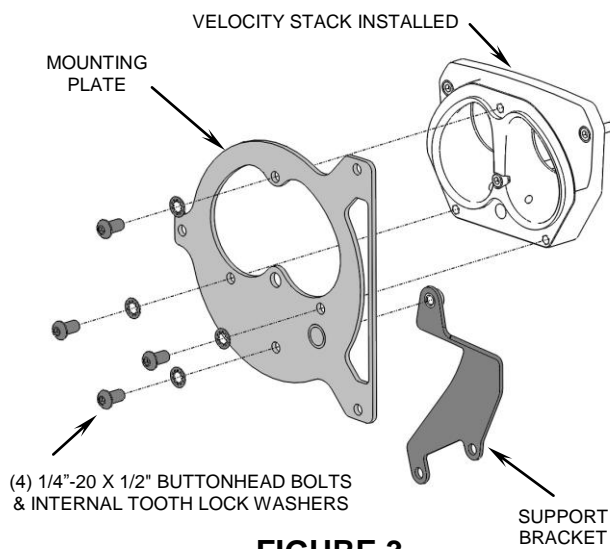
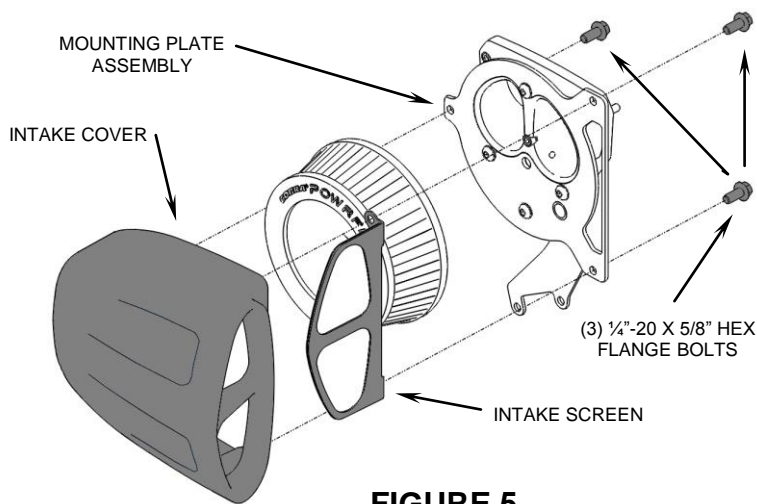

FIGURE 3
FIGURE 5
4. Bolt the velocity stack to the throttle body using the (2) supplied M5 x 16mm allen bolts along the top.
**ATTENTION: Due to model year variation the correct length bolt must be used on the third lower bolt hole. FIRST,** Use the (1) supplied **M5 x 55mm** allen bolt with split lock washer and try to fully tighten the bolt, if the bolt head will not seat fully and approximately 0.500" of the bolt shank still protrudes from the aluminum velocity stack, it must be removed and the supplied **M5 x 30mm** allen bolt with split lock washer must be installed and tightened to factory specification until fully seated. **Be absolutely sure to use the correct bolt for your model motorcycle,** Cobra will not accept responsibility for the incorrect bolt being used.
5. Position the mounting plate over the velocity stack (with the welded tube toward inside) and secure using (3) supplied 1/4"-20 x 1/2" buttonhead bolts and (3) internal tooth lock washers, finger tighten only. See Figure 3.
6. Remove the two allen bolts at the base of the cylinders and install the supplied support bracket. Secure the support bracket to the mounting plate using the (1) remaining 1/4" buttonhead bolt and internal tooth lock washer. See Figure 3 & 4.
7. Fully tighten the (4) 1/4"-20 buttonhead bolts (Steps 5 & 6) and the two stock allen bolts (Step 6).
9. Insert the intake screen into place so the holes in the bent tabs align with the threaded bosses in the intake cover, see Figure 5 for orientation. Place the supplied K&N® filter into the intake cover.
10. Place intake cover over the mounting plate and align the mounting holes to the threaded bosses. Insert the (3) supplied 1/4" hex flange bolts and tighten the mounting plate to the intake cover. See Figure 5.